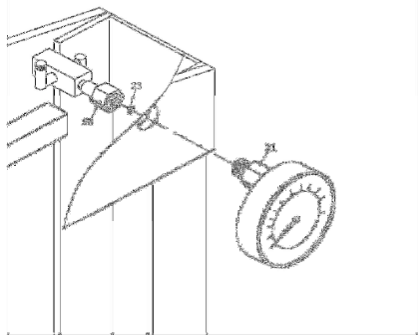

Fig.05
- Assemble the nylon ring to gauge fitting, then put the pressure gauge and twist tight. (Fig. 05)